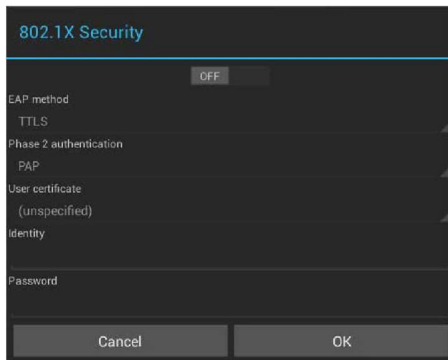

FIG. 61 802.1x Security window (OFF)
1. From the Ethernet page (either tab), select 802.1x Security to open the 802.1x Security window (FIG. 61).